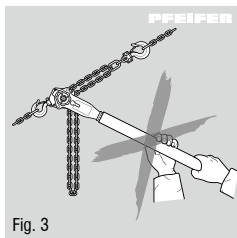

Fig. 3
- It is not permitted to extend the lever (Fig. 3).